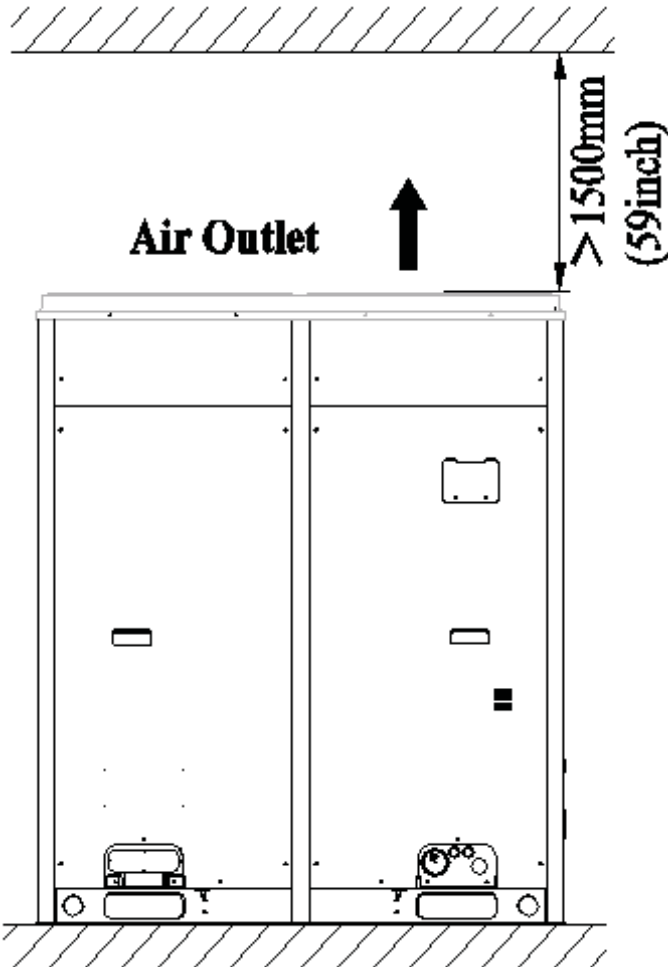
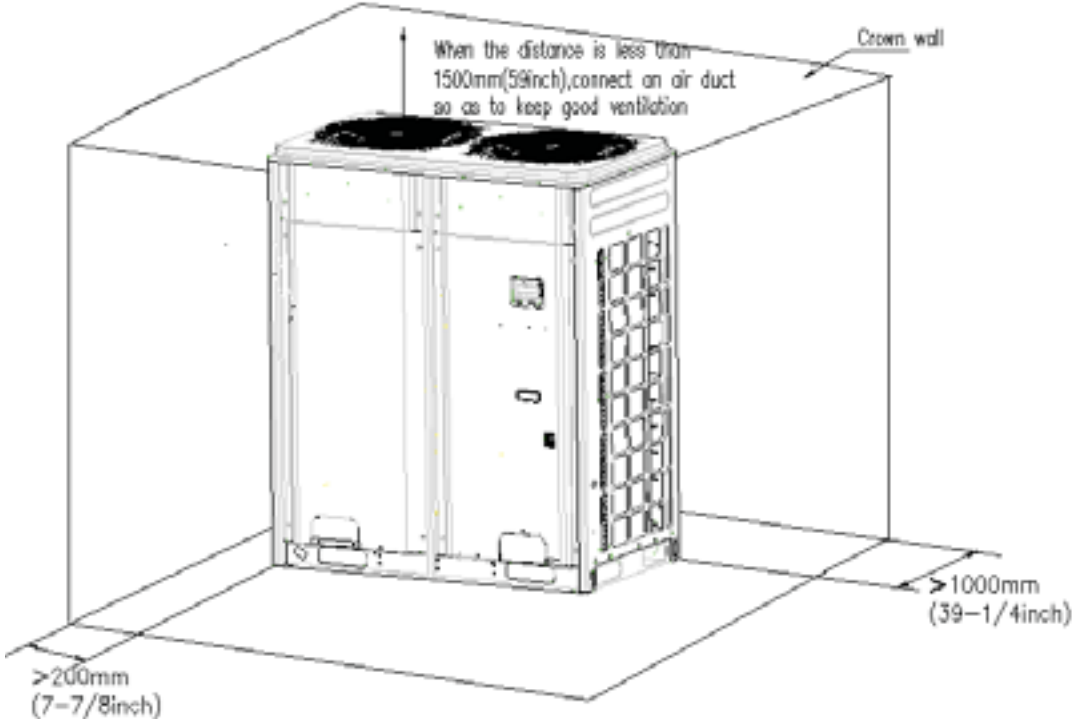

Fig.6
Fig.7
3.2.2 When there is wall (or similar obstruction) above the unit, keep the distance between the unit top and the wall at least 3000mm (10 feet). When the unit is located in a totally open space with no obstructions in four directions, keep the distance between the unit top and wall at least 1500mm (5 feet) or above (See Fig.6). When space is limited within 1500mm (5 feet) or the unit is not set in an open space, air return duct is required to be installed for ventilation (See Fig.7).